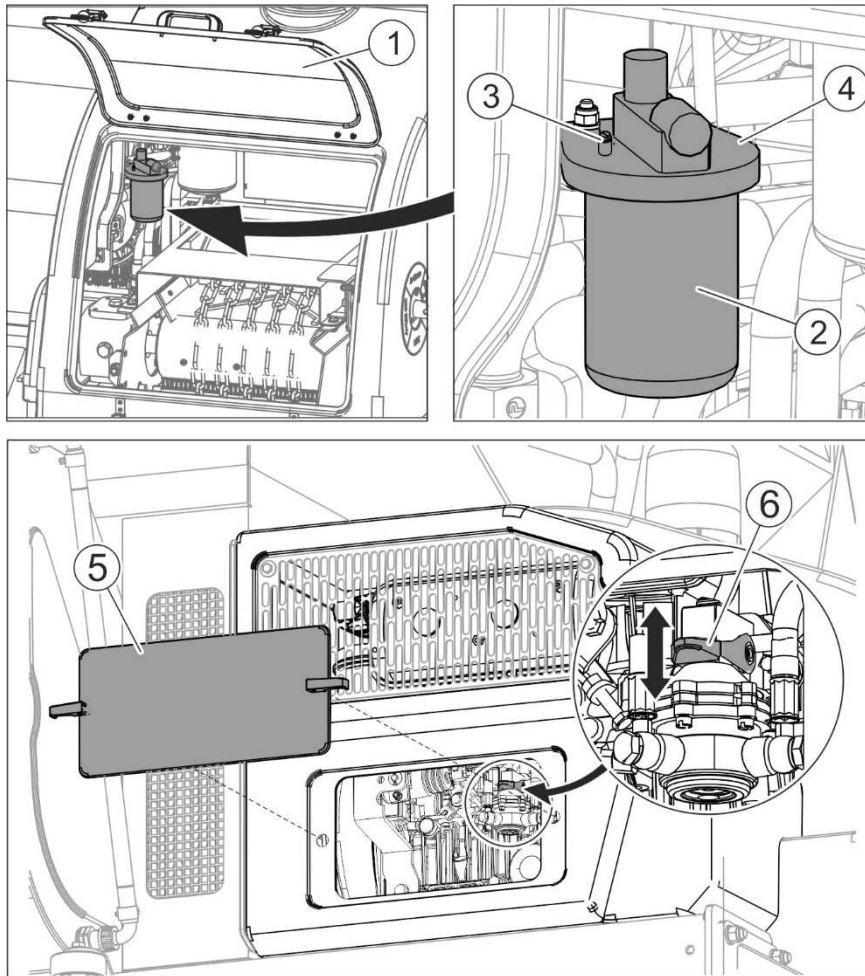

FIGURE 5.4 Replacement of fuel filter
- Unlock and open the shield (1) (FIGURE 5.4) in the front section of the spreader.
- Clean the filter body (4), prepare the container of appropriate size to drain the fuel and put it under the fuel filter.
- Unscrew filter cartridge (2).
- Tighten the filter cartridge (2) and clean the engine.
- Close and lock the shield (1).
- Unlock and open the shield (1) and the engine shield (5) (FIGURE 5.4).
- Loosen the bleed screw on the filter (3).
- Pump fuel with hand fuel pump (6) until fuel without air bubbles starts flowing out from bleed screw (3).
- When the fuel system bleeding is completed, tighten the screw (3) and clean the engine.
- Close and lock the shields (1) and (5).